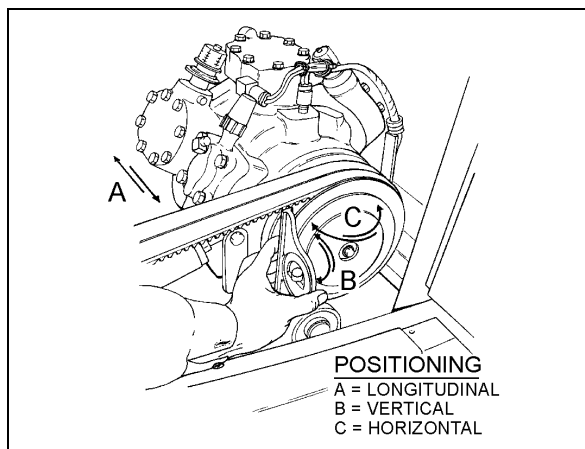

FIGURE 26: COMPRESSOR ALIGNMENT
1. Rest an extremity of a straight edge of approximately 46 inches (117 cm) against the upper part of the outer face of crankshaft pulley, positioning the other end close to the compressor clutch pulley (Figs. 26 & 27).
2. Check the distance between each extremity of straight edge (1. Fig. 26) and the first drive belt. If they are different, loosen the compressor support bolts and with a hammer, knock support to slide it in order to obtain the same distance; then tighten bolts.
Rest a short "angle and level indicator" on the outer side face of the crankshaft pulley, adjust the level indicator inclination at 0° and check if the compressor pulley is at same angle (Fig. 26). If it is not the same, shim under the appropriate pillow block in order to obtain the correct angle.